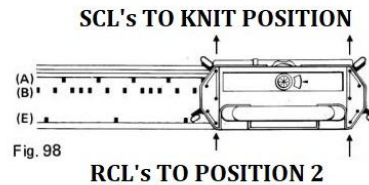

Fig. 98
- (a) Before commencing to knit, transfer every 4th stitch, starting with 4th needle from right end, to each adjacent needle, and those empty needles should be pushed back to the rest position (A). Push back SCLs to "KNIT" position and RCLs to "Position 2".
- (b) Push forward into position (E) with your finger every 8th needle starting with 2nd needle from the right end. (Fig.98) Knit 4 rows.